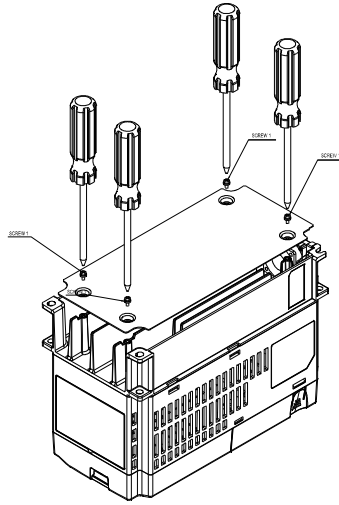

Figure 1
1. Install accessory 1 by fastening 4 of the screw 1 (M3) (figure 1). Screw torque: 6~8kg-cm (5.21~6.94lb-in).